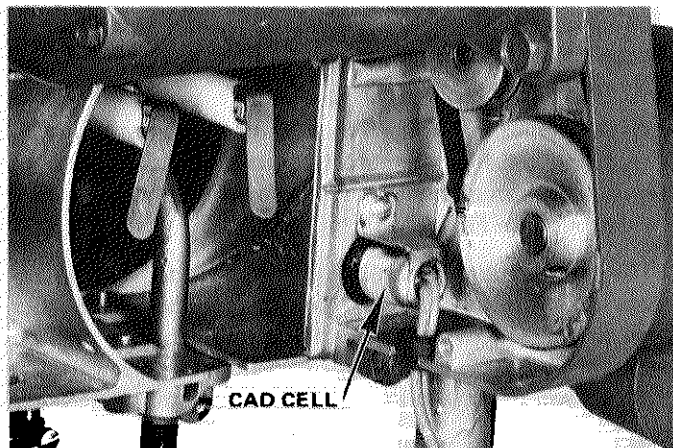

FIGURE 8
- 3 - On OHP30C and OHP31C-7 burners, removing belt guard plate also exposes the cad cell. To remove cad cell, unplug the wiring leads and remove securing screw. See Figure 8.